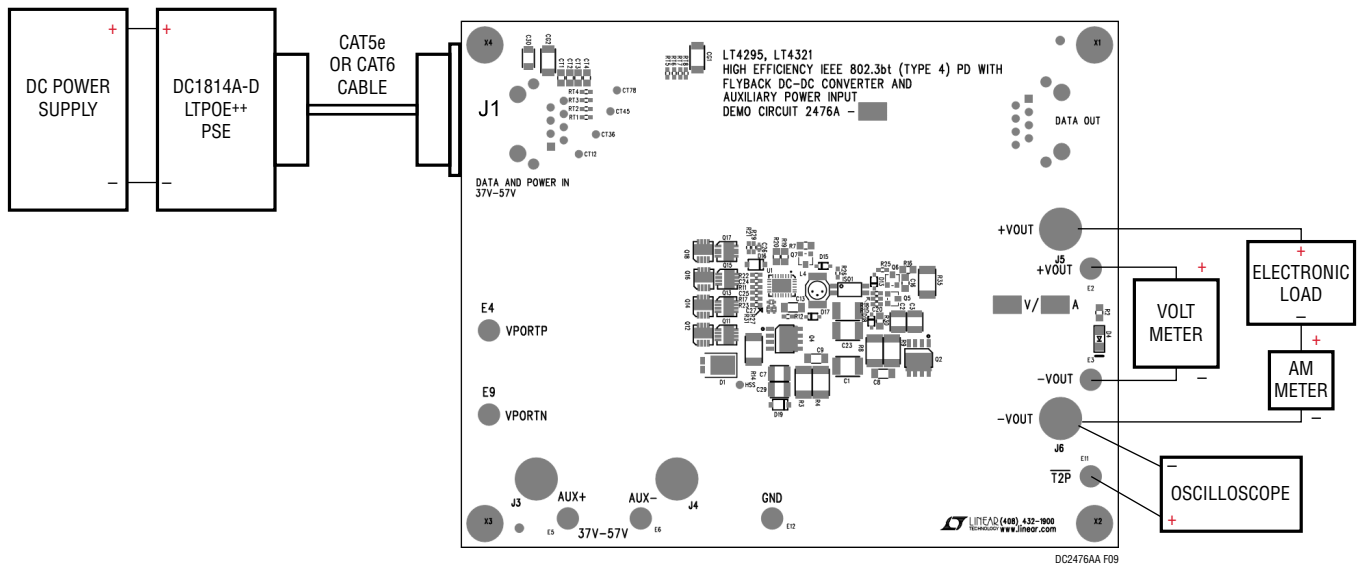

Figure 8. Setup Diagram for PoE Input
2. Place and connect test equipment (voltmeter, ammeter, oscilloscope and electronic load) as shown in Figure 8.
8. Verify $\overline{T2P}$ response with an oscilloscope as shown in Figure 8. The $\overline{T2P}$ response to the type of PSE connected to the DC2476A-A is provided in Table 1.